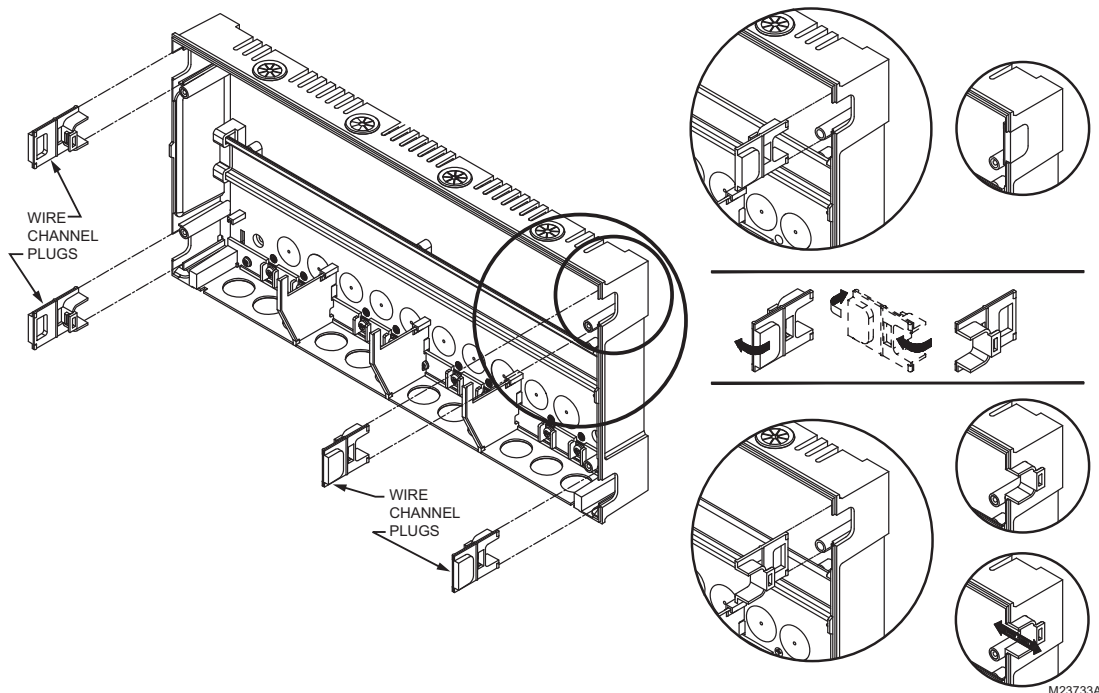

Fig. 3. Orientation of wire channel plugs for creating pass-through wire channel and for joining Control Panel to Expansion Zoning Panels.
1. Remove wire channel plugs from the AQ25A Control Panel and any Expansion Panels (see Fig. 3).
3. Reverse wire channel plugs and re-insert them into their slot to form a wiring channel between the Control Panel and the Expansion Zoning Panel (see Fig. 3) and to connect the two panels together.